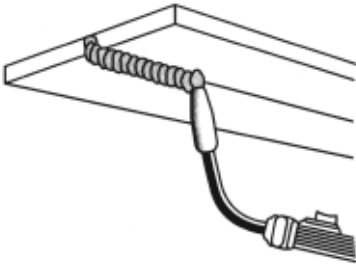

Figure 24. Overhead Position
4. The OVERHEAD POSITION (Figure 24) is the most difficult welding position because gravity is pulling at the weld puddle trying to make it drip off the work piece. Angle A (see HOLDING THE GUN - p.19) should be maintained at 60 degrees, the same as in the flat position. Maintaining this angle will reduce the chances of molten metal falling into the nozzle should it drip from the weld puddle. Angle B should be held at zero degrees so that the wire is aiming directly into the weld joint. If you experience excessive dripping of the weld puddle, select a lower heat setting. Also, the weave bead tends to work better than the stringer bead when welding overhead.